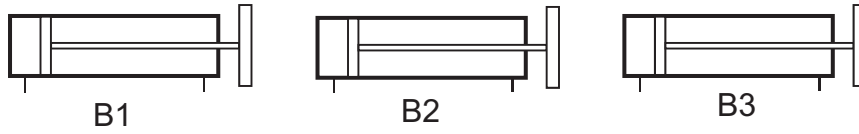

Fig. 17
- (v) The identical double acting cylinders B1, B2 and B3 in **Fig. 17** each operate with an air pressure of 0.5 N/mm^2 and have a piston rod radius of 5 mm and a combined total area (not including the area of the piston rods) of 5652 mm^2 during the instroke. It is intended to replace B1, B2 and B3 with one large double acting cylinder. Calculate the outstroke force that the replacement cylinder would need to provide in order to equate to the combined force produced by B1, B2 and B3. Assume $\pi = 3.14$.